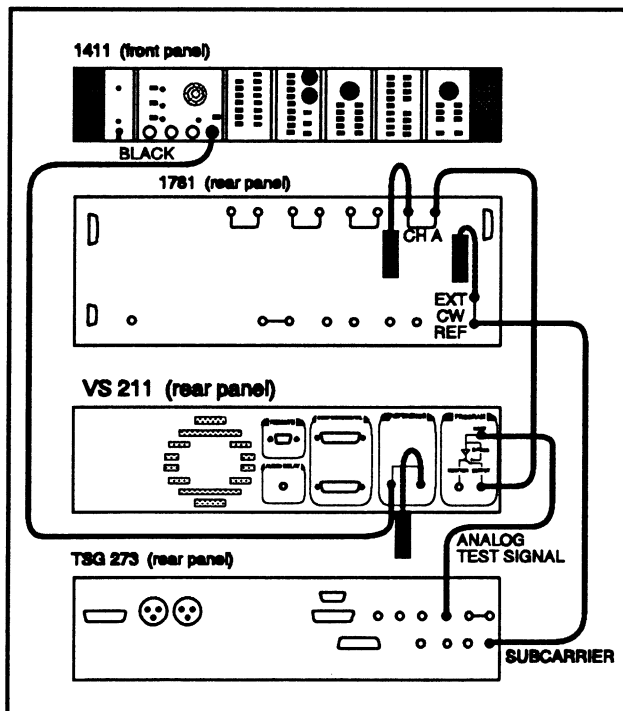

Fig. 4-15.
- a. Connect the test equipment as shown in Fig. 4-15.